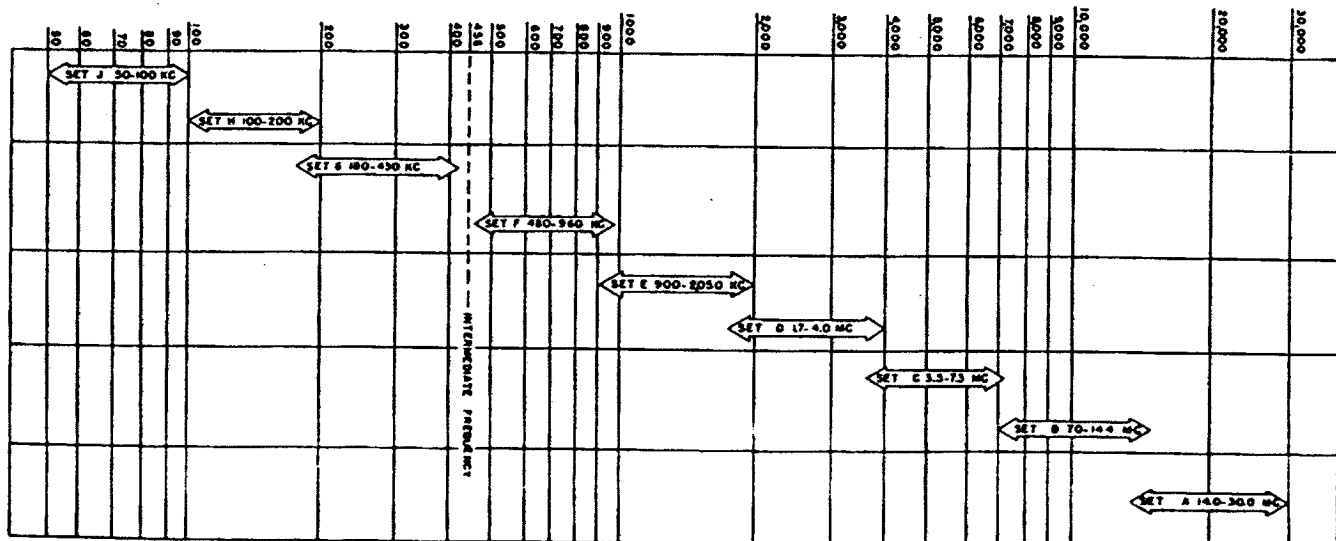

Figure 3. Coil set—frequency spectrum chart.
b. PLUG-IN COIL SETS. Individual coil set coverage is shown in figure 3.